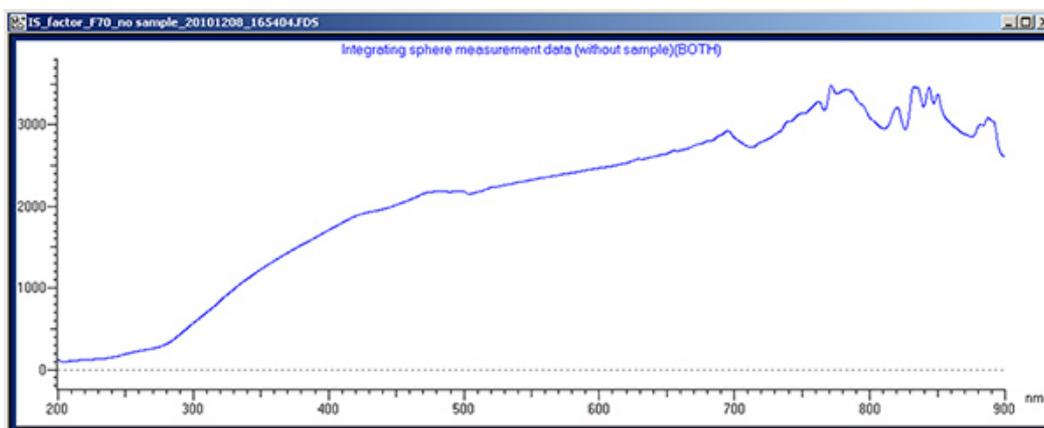

Figure 2. Click here to view larger figure.
6. After measurement, the file will be saved in the folder "Correct" of FL Solutions. **Figure 2** is an example of the Integrating Sphere with no sample measurement data.